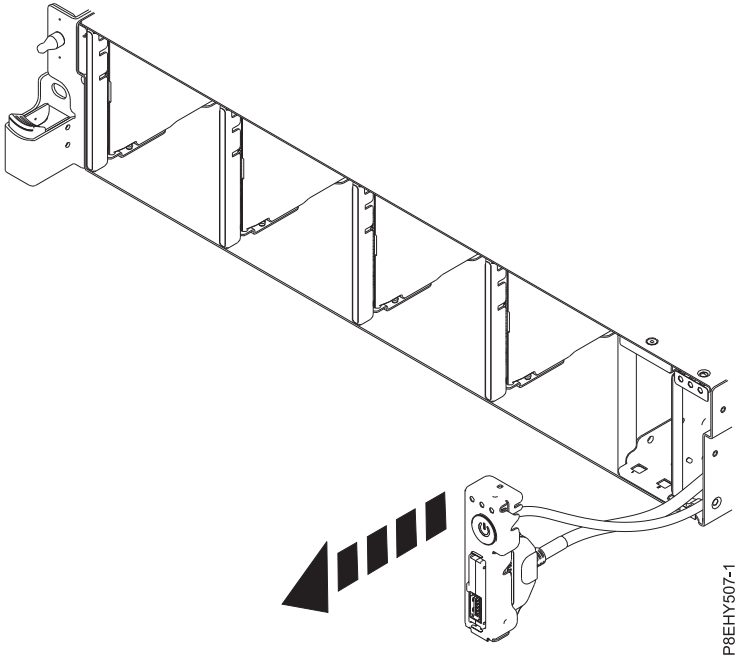

Figure 68. Pull out the power switch and cable
- 9. Pull the power switch from the system. See Figure 68.